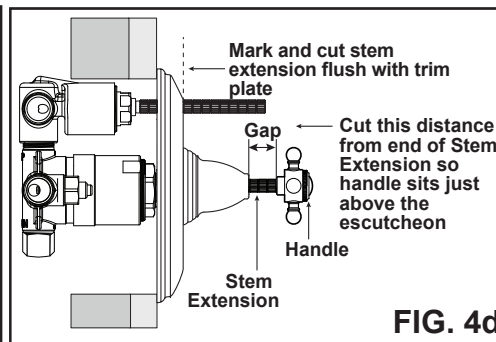
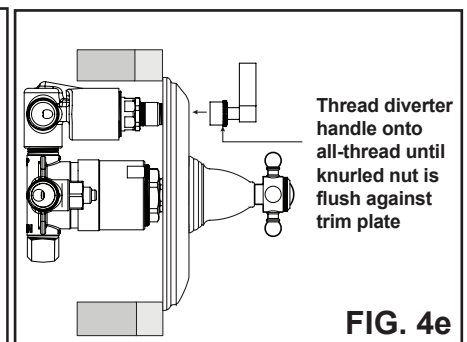

FIG. 4d
FIG. 4e
2. **For the diverter**, mark the all-thread flush with the trim plate. FIG 4b Remove the all-thread and cut 3/16" behind the mark so that the all-thread will be 3/16" behind the trim plate when reinstalled. FIG 4c Mark the stem flush with the trim plate, remove the stem, and cut at the mark. FIG 4d Reassemble the stem and the all-thread (making sure the locking nut is tightly securing all-thread), then the plate. Position the lever of the diverter handle at a 12 o'clock, while using the knurled nut to fully thread the diverter handle onto the all-thread. FIG 4e